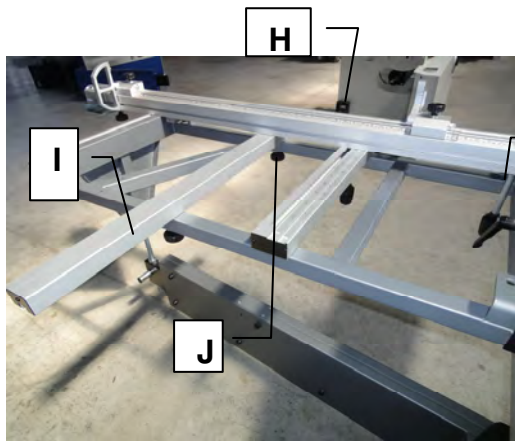

Figure 3-4.2
2. Fit square pipe **I** (Fig. 3-4.2) to **R** (Fig. 3-4.1a) of crosscut frame. And tighten knob **J**(Fig. 3-4.1b & 3-4.2) for fixing on crosscut frame.
- Fit crosscut fence in the groove **H** (Fig. 3-4.2) and holes on crosscut frame (as Fig 3-4.2b)